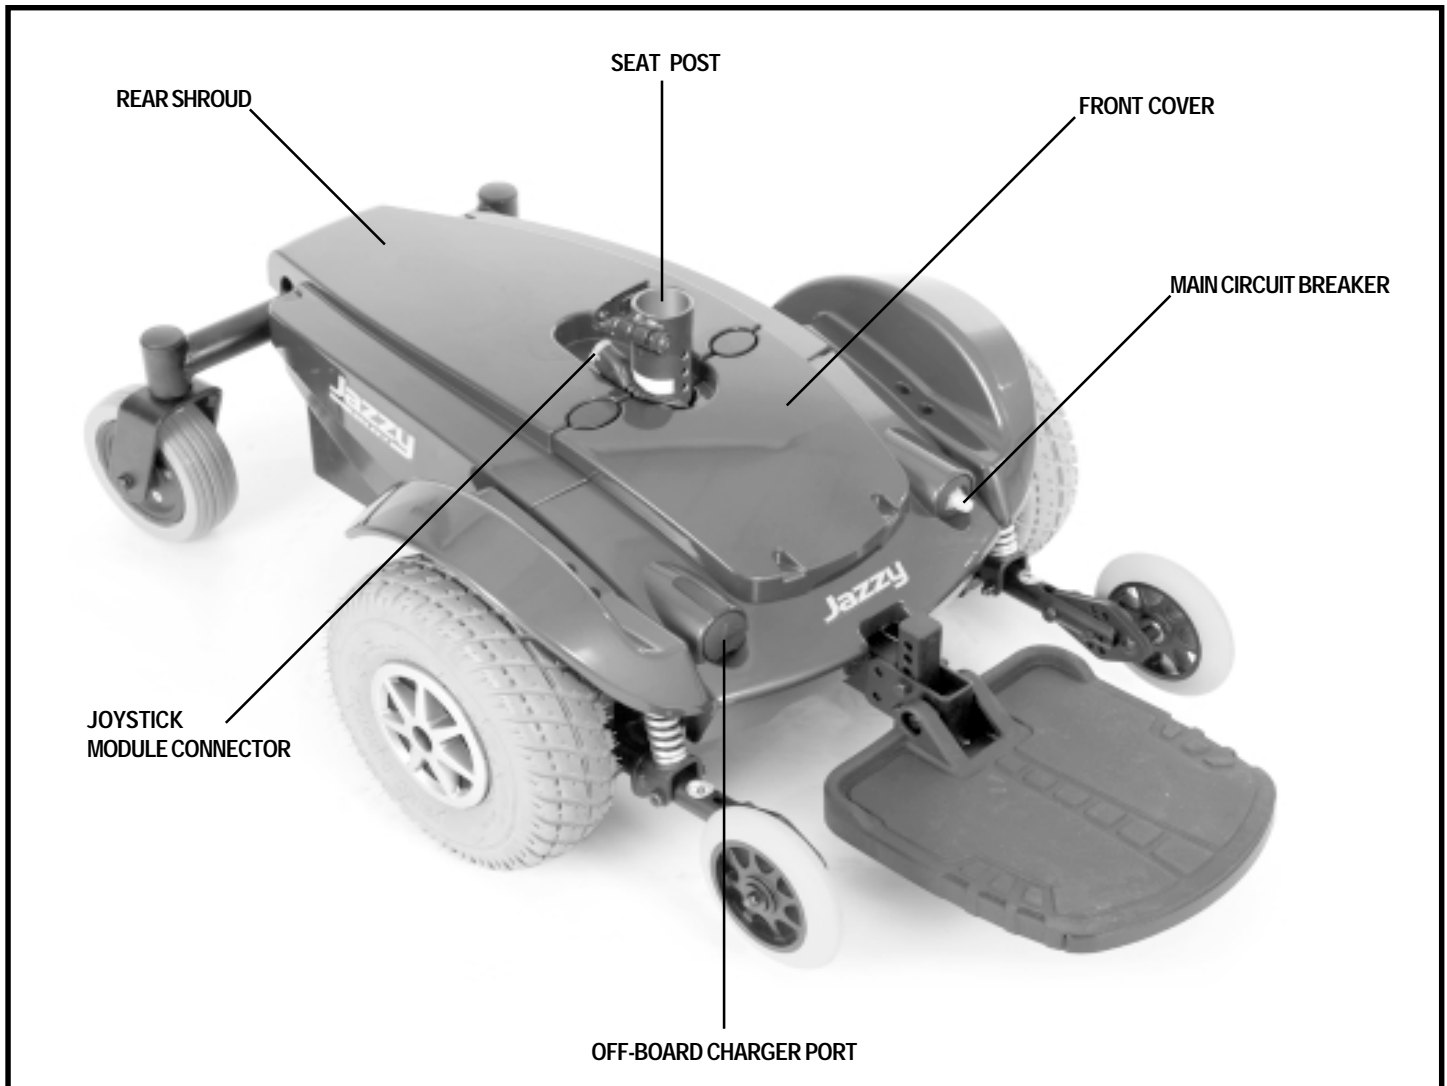

Figure 6. The Jazzy Select Power Base
The electrical components are located either on or inside the power base. The main circuit breaker and off-board charger port are located on the front of the power base. The power module is located under the front cover. See figures 6 and 7.
5. Plug the joystick module cable into the connector on the power base. See figure 6.